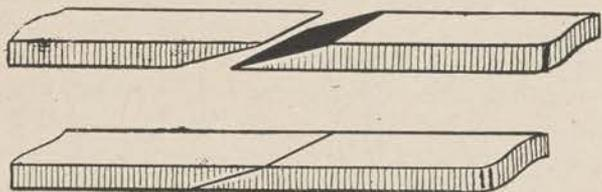

Figure 33.
d. Two laces can be spliced together by skiving the end of each at opposite angles and gluing them together with rubber cement (fig. 33). If you are